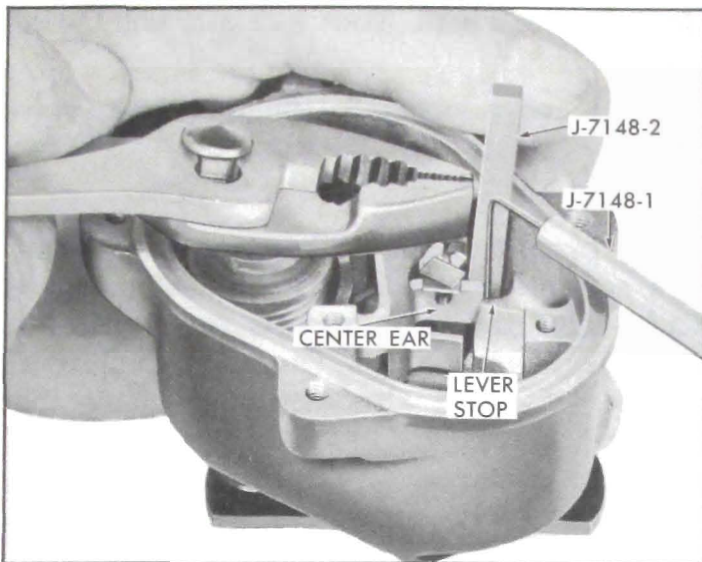

Figure 7-73—Setting Exhaust Valve
(5) If air leakage was heard during the .053 test, bend the upper ear of the operating lever toward the valve core seat, but only slightly. (When bending the ear, do not remove the two gauges.) See Figure 7-73. Use the screwdriver or other suitable tool and once more press in to seal the core seat. If the bending performed was sufficient, no air leakage should be heard. If leakage is still heard, then the upper ear was not moved enough. If no leakage is heard, remove Wedge Gauge J-7148-2 and Gauge J-7148-1 and repeat Step (2) using the .049 end of the gauge. A slight amount of leakage should be heard. See Figure 7-73.